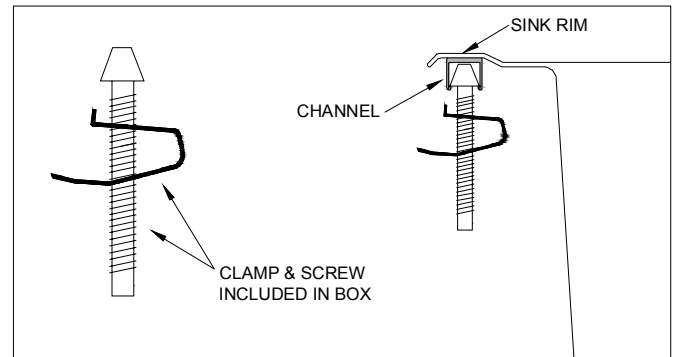

Figure 31B
- Thread screws into clamps as indicated in FIG. 31B